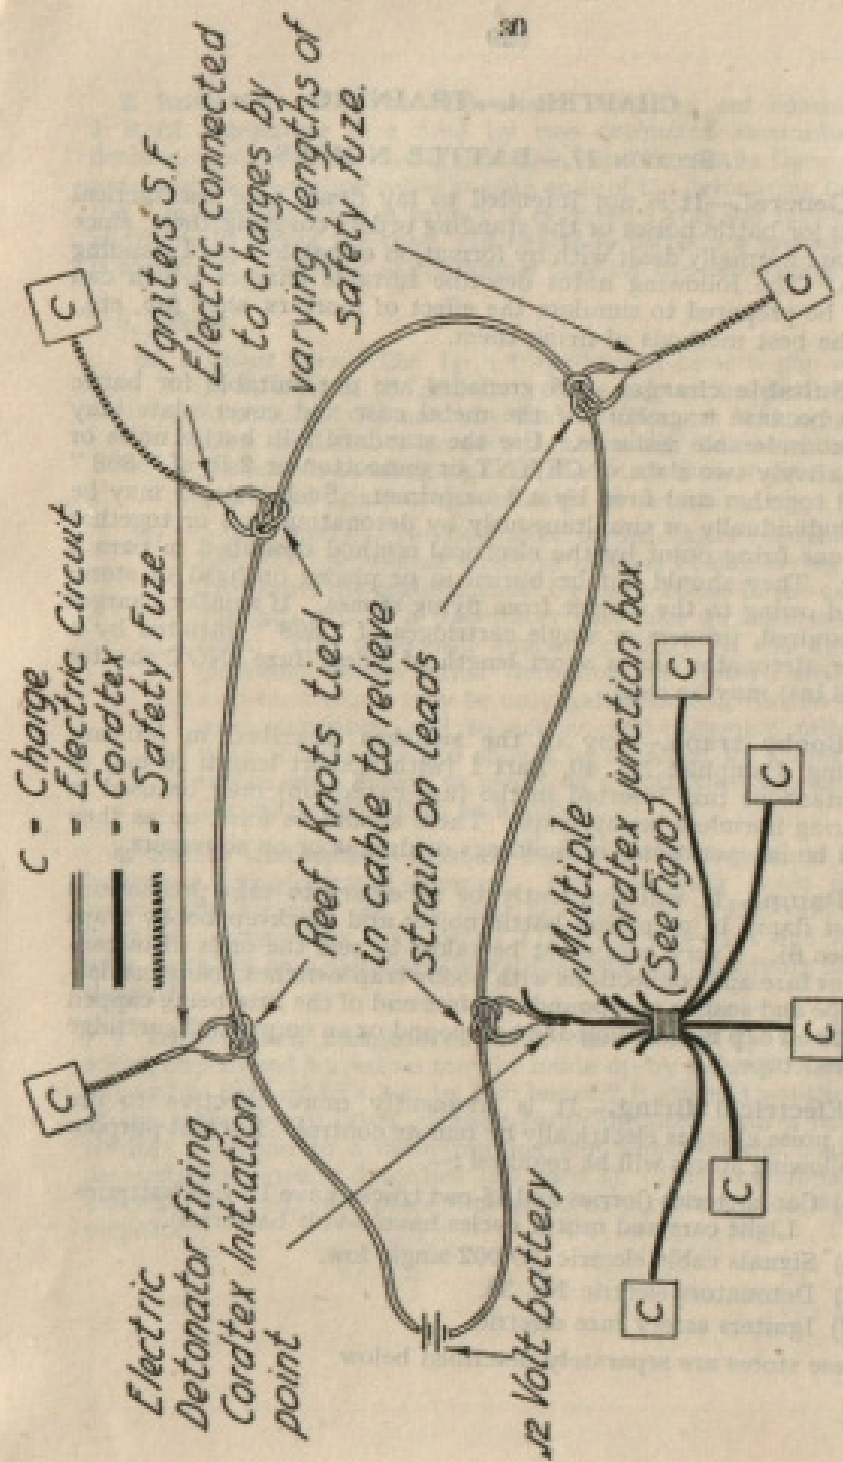

Fig 20. Diagrammatic layout of electrical circuit for battle noises
6. Detonator electric No. 33.—This consists of a No. 27 detonator (see Sec 5) with an electric firing head on the top. When an electric current of sufficient strength is passed through the head a flash occurs which fires the detonator. A fully charged battery will produce sufficient current to fire a certain number of detonators connected in series with the battery through a given length of cable. The term "in series" means that the detonators are connected up by lengths of cable, the circuit starting at one terminal of the battery, passing through each detonator in turn and finishing at the other terminal (see Fig 20). Table 3 shows the number of No. 33 detonators or igniters which can be fired by standard 6- and 12-volt batteries through different lengths of cable, assuming batteries FULLY CHARGED.